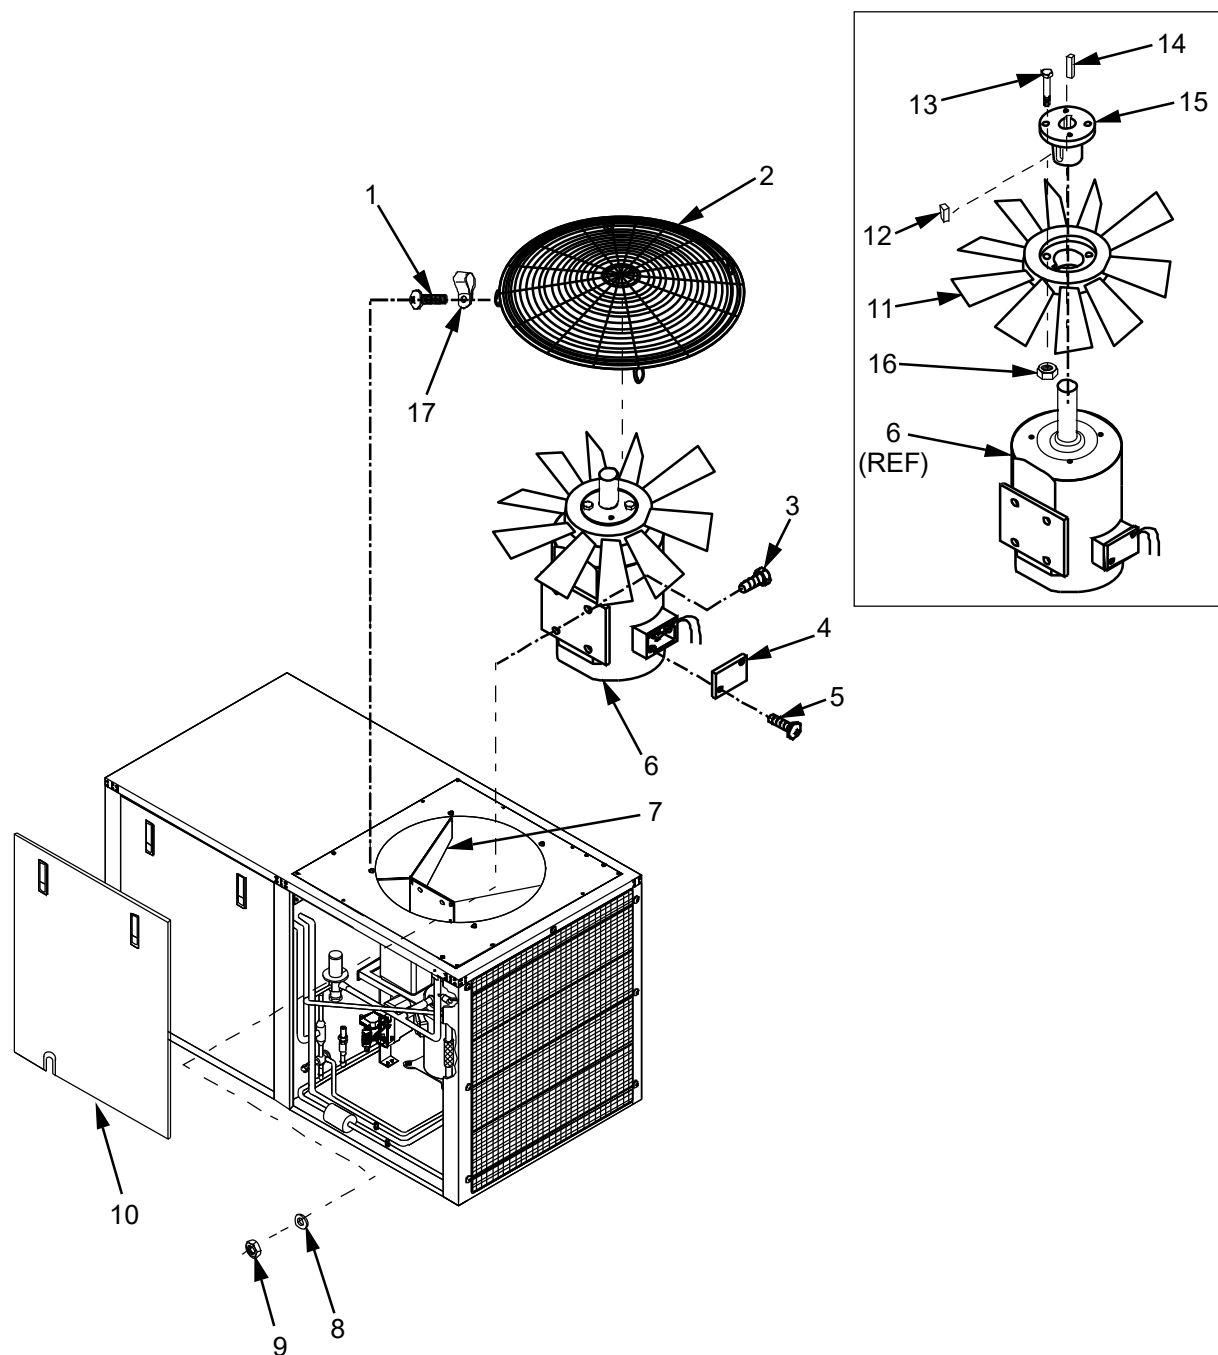

Figure 1. Condenser Fan Replace.
5. Remove and retain four nuts (Figure 1, Item 9), bolts (Figure 1, Item 3) and flat washers (Figure 1, Item 8) that secure condenser fan motor (Figure 1, Item 6) to frame (Figure 1, Item 7).
6. Remove and retain two screws (Figure 1, Item 5) and cover (Figure 1, Item 4) on condenser fan motor (Figure 1, Item 6).
7. Remove condenser fan motor (Figure 1, Item 6) from top of ECU and set aside.
8. Using puller, remove fan blade assembly (Figure 1, Item 11) and key (Figure 1, Item 12) from shaft of condenser fan motor (Figure 1, Item 6).
1. If applicable, install fan blade assembly (Figure 1, Item 11) and key (Figure 1, Item 12) onto shaft of condenser fan motor (Figure 1, Item 6).
2. Place condenser fan motor (Figure 1, Item 6) on top of ECU.
3. If applicable, remove and retain in two screws (Figure 1, Item 5) and cover (Figure 1, Item 4) on condenser fan motor (Figure 1, Item 6).
4. Connect electrical wiring to condenser fan motor (Figure 1, Item 6) (see Table 1).
5. Install cover (Figure 1, Item 4) and secure using two screws (Figure 1, Item 5).
6. Lower condenser fan motor (Figure 1, Item 6) into ECU and align with frame (Figure 1, Item 7). Secure to frame (Figure 1, Item 7) using four nuts (Figure 1, Item 9), bolts (Figure 1, Item 3), and flat washers (Figure 1, Item 8).
7. Install fan guard (Figure 1, Item 2) to top of ECU and secure using four screws (Figure 1, Item 1).
8. Replace access panel (Figure 1, Item 10).